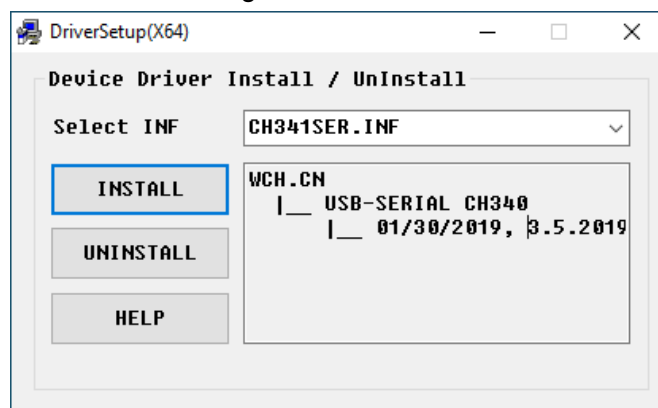

Figure 4-3 CH340 / CH341 device driver install program
4. Click **INSTALL** button shown as Figure 4-3;